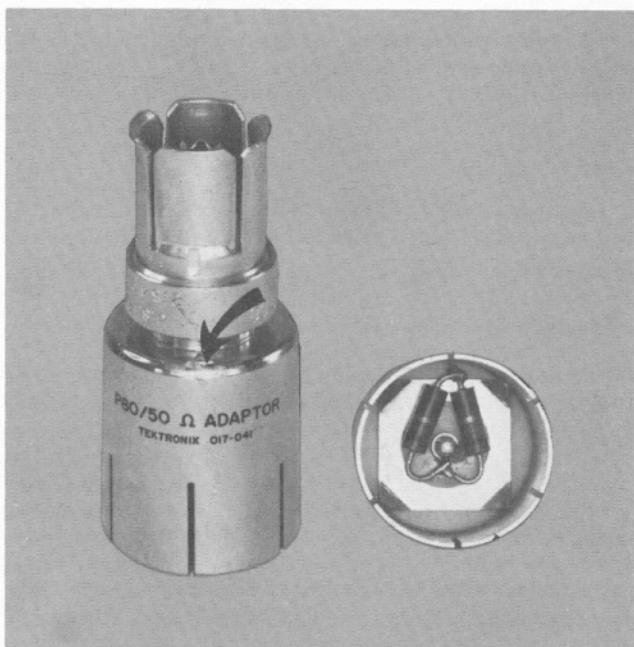

Fig. 6-1. Modified P80/50 Ω Adapter, Part No. 017-041.
The modification of the P80/50 Ω Adapter mentioned in item 6 above consists of adding two 100 Ω 5% ½ watt carbon composition resistors as a 50 Ω Termination. The picture on the left side of Fig. 6-1 shows where a hole was drilled in the adapter, filed clean of chrome, and the termination soldered to ground. The picture on the right side of Fig. 6-1 shows the internal resistor layout and method of soldering them to the center conductor. This modification places a 50 Ω termination as close to the input to the probe as possible, making the adapter satisfactory for proper cable termination.